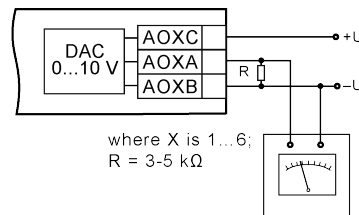

Fig. 4.1 Functional Test
- Connect a voltmeter and a resistor box as shown in Fig. 4.1.